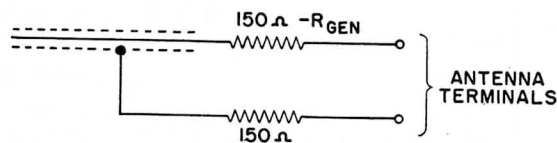

Fig. 6.
9. Connect the signal generator (see figure 6) to the antenna terminals and the voltmeter in place of the oscilloscope.
3. Connect a sweep generator to the antenna terminals and adjust the generator until a response curve (may vary somewhat from figure at bottom of this page) appears on the oscilloscope screen. The generator should have a balanced output; if it does not, connect it as shown in figure 6.